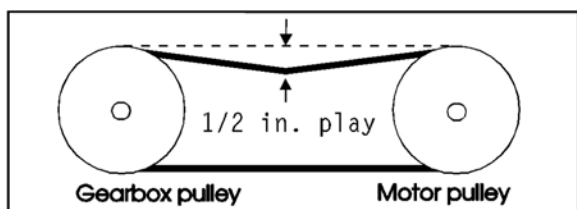

Figure 14: Setting correct play in drive belt
6. Turn the adjustment screw clockwise to tension the belt until there is 1/2 inch of play in the belt as shown in *Figure 14*.